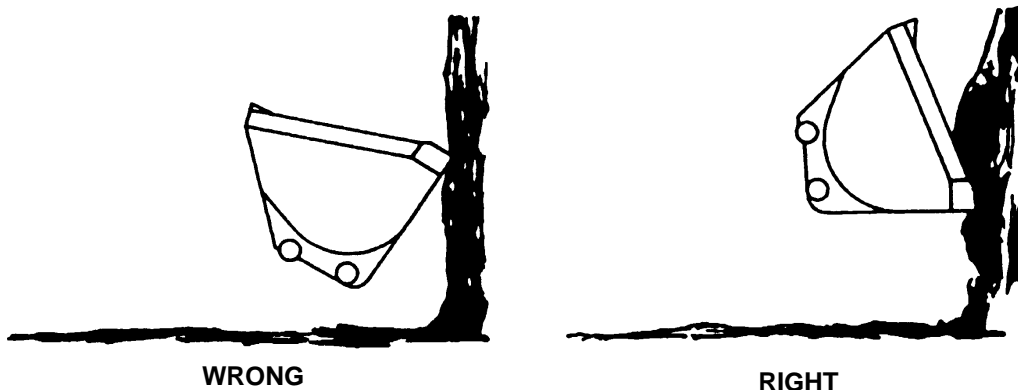

Fig. 4.46. Bank Loading
4. When bank loading, keep the cutting edge flat as shown in Figure 4.46. Rolling the bucket back too far forces the flat of the cutting edge against the bank preventing the bucket from digging. This non-productive maneuver causes waste of power and time and possible damage to the bucket cylinders and linkage.